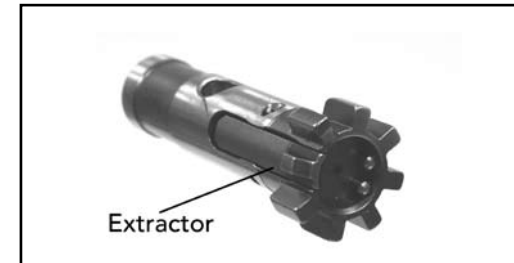

Fig. 29 – Bolt Head
g. Further disassembly of the bolt head, including removal of the extractor is not recommended (Fig. 29).